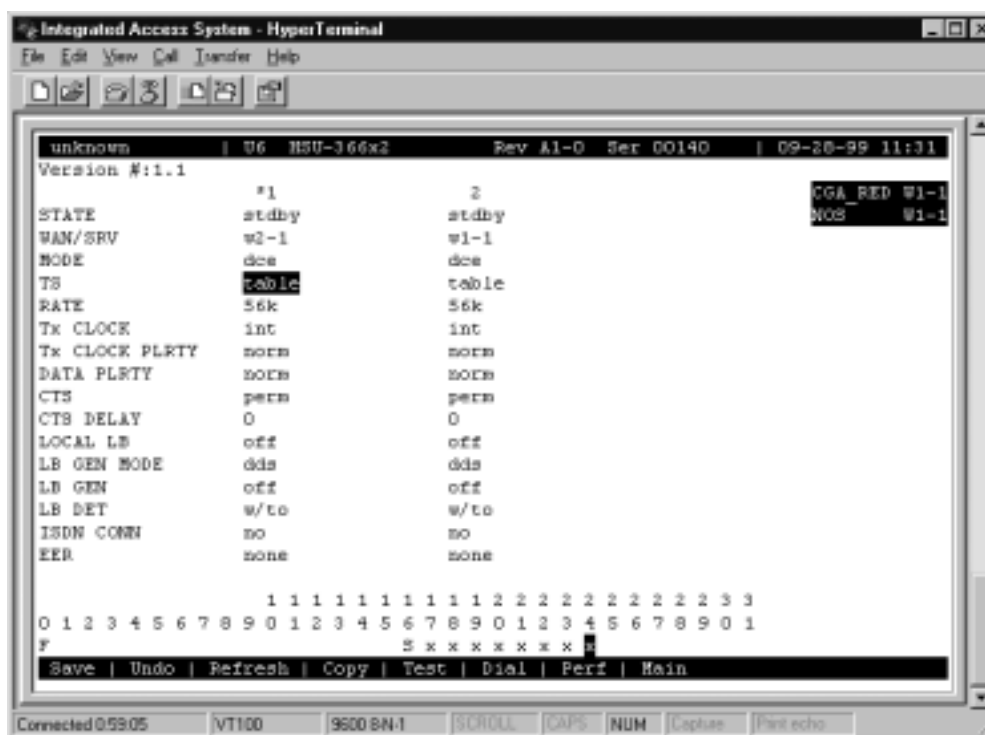
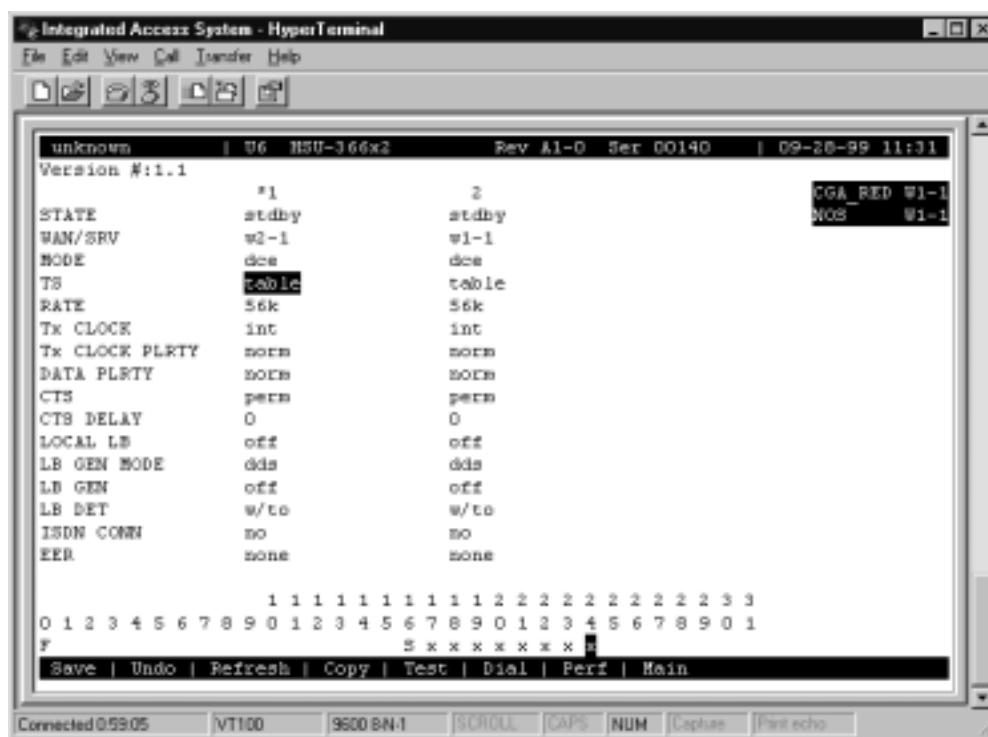

Figure 5-29. Typical HSU Card Time Slot Assignments for T1
Figure 5-30. Typical HSU Card Time Slot Assignments for E1
Figure 5-29 shows the HSU Card Main Screen for the time slot assignment example. Assign time slots to this card as follows:
2. Select the WAN port to which you want to assign the HSU port. In Figure 5-29, this port is **W1-1** (for WAN 1, port 1).
4. Place an “x” under each desired time slot, using the space bar to either select or de-select a time slot. Use the right arrow key to move to the next time slot (TS) for selection. Then, press <Enter>. In Figure 5-29 (for T1), the HSU port is assigned eight time slots (9 to 16). In Figure 5-30 (for E1), the HSU port is assigned eight time slots (17 to 24).